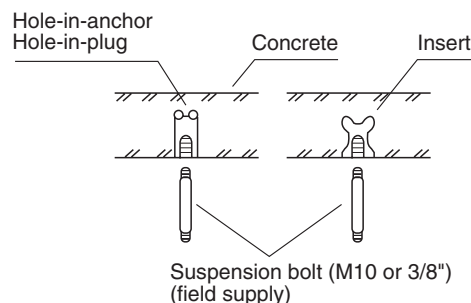

Fig. 1-12
- Fix the suspension bolts securely in the ceiling using the method shown in the diagrams (Figs. 1-12 and 1-13), by attaching them to the ceiling support structure, or by any other method that ensures that the unit will be securely and safely suspended.